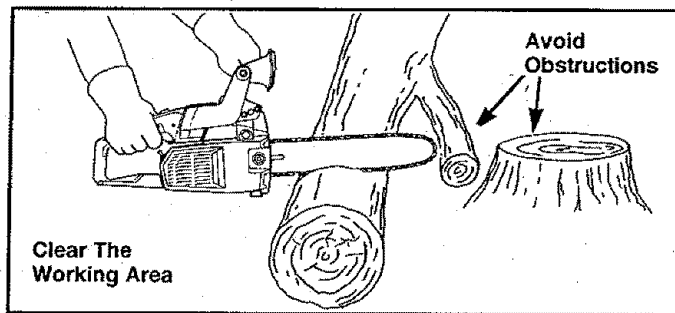

Figure 3
- **Keep the working area free from obstructions** such as other trees, branches, rocks, fences, stumps, etc. Figure 3. Eliminate or avoid any obstruction that your chain could hit while you are cutting through a particular log or branch.